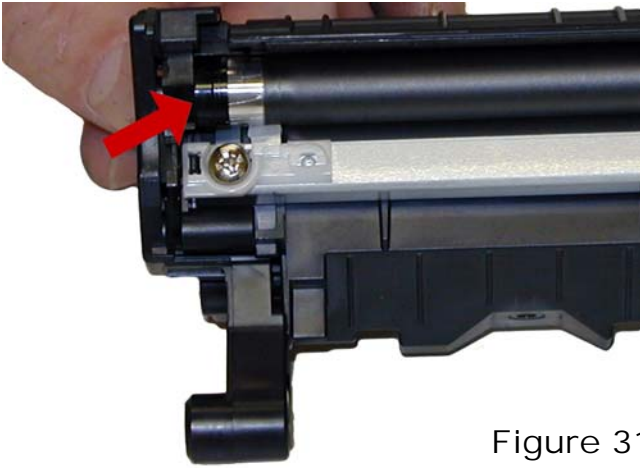

Figure 31
23) Install the magnetic roller black bushing side first. Turn the roller until the keyed end locks in place. See **Figure 31**